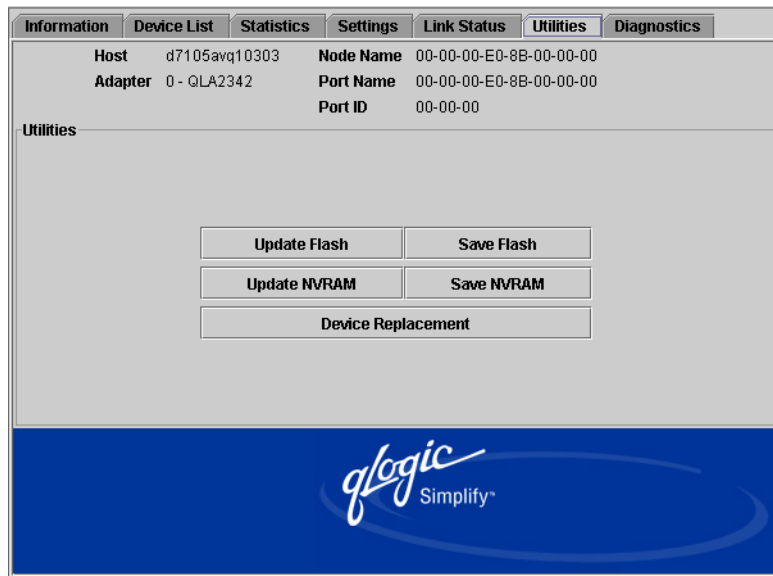

Figure 11-7. Utilities Tabbed Page
- Click the **Utilities** tab. The **Utilities** tabbed page displays (see figure 11-7).